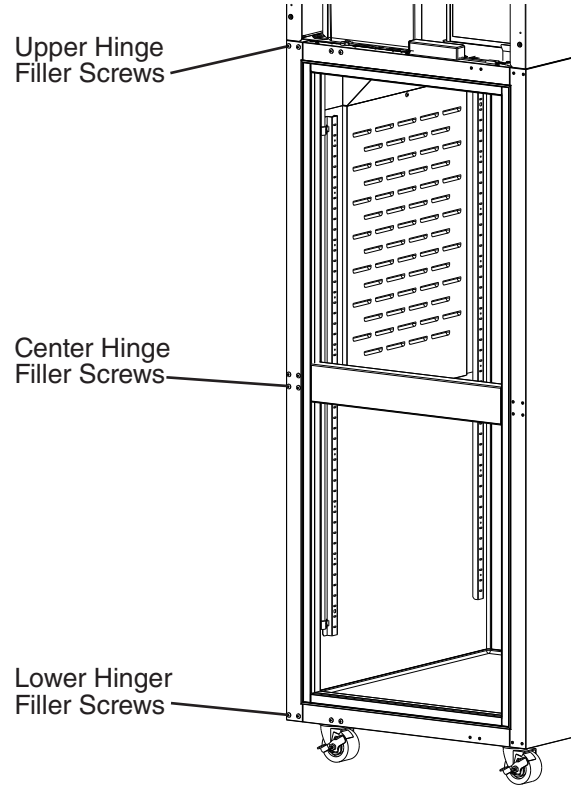

Fig. 53
- 11) Remove the lower hinge bracket, then move the filler screws for the upper, center, and lower hinge brackets to the opposite side of the cabinet. See Fig. 53.